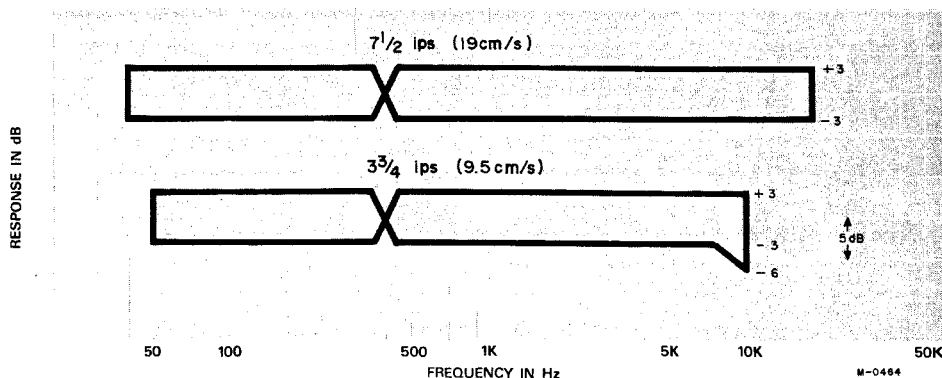

Fig. 8-3 Frequency Response Limits -Playback-
3. Compare the readings obtained on the level meter with the response limits given in Fig. 8-3.